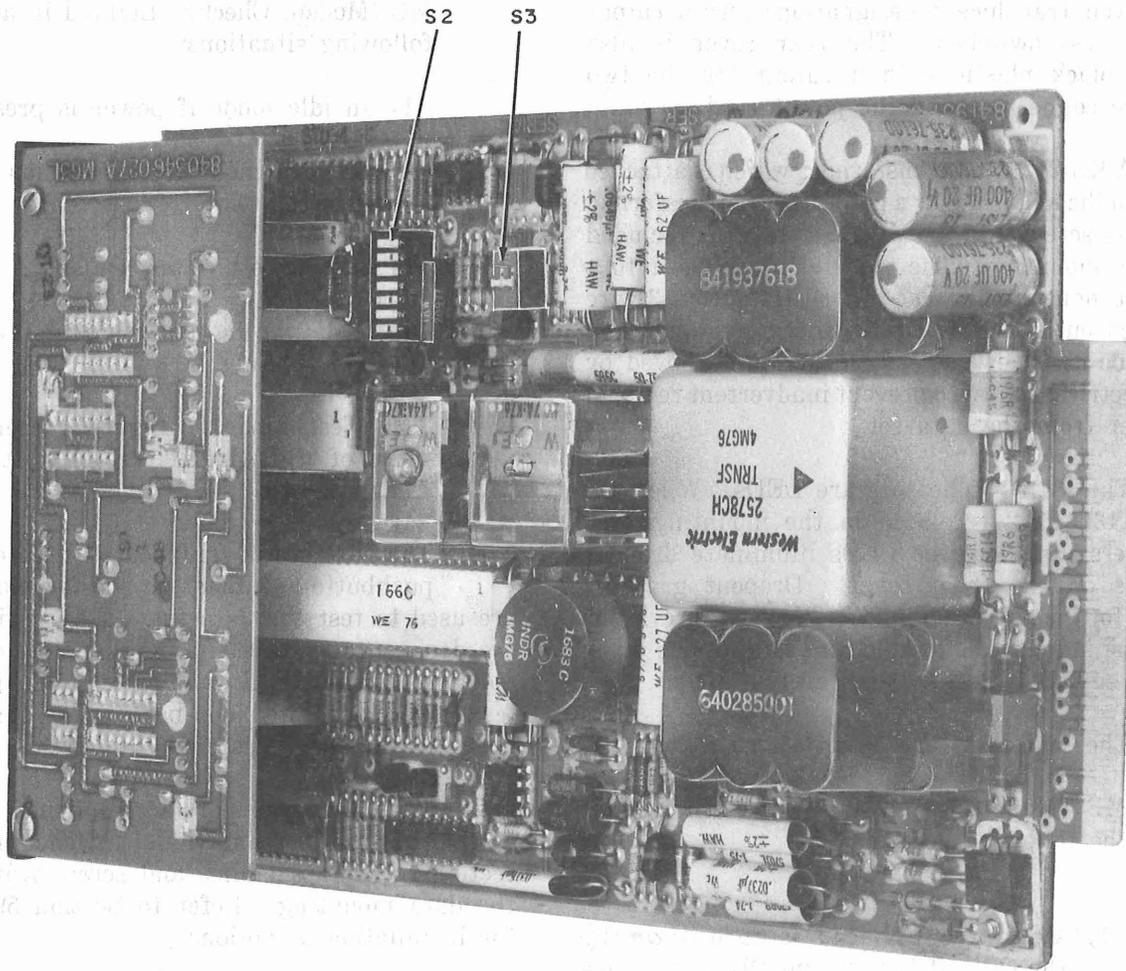

Fig. 2—DS 113D-L1
- **DS 113D-L1:** Printed circuit pack assembly shown in Fig. 2.